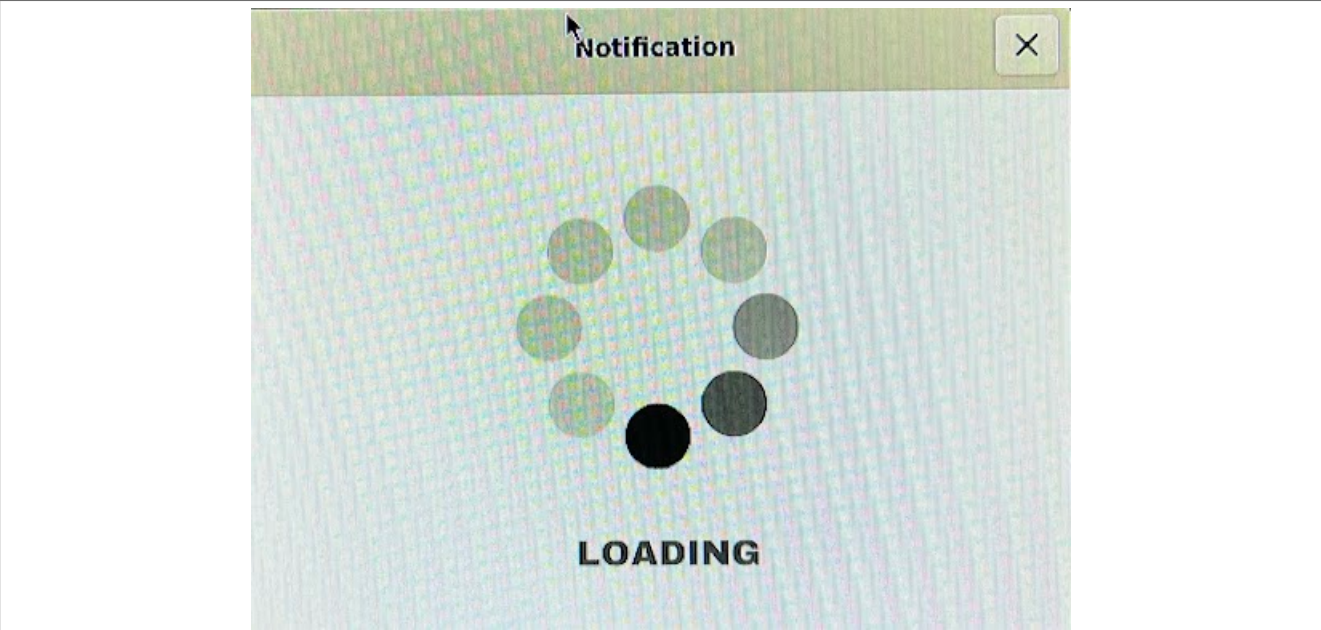

Figure 36. Loading gif
- When the demo is launched, there is a short loading period as shown in Figure 36